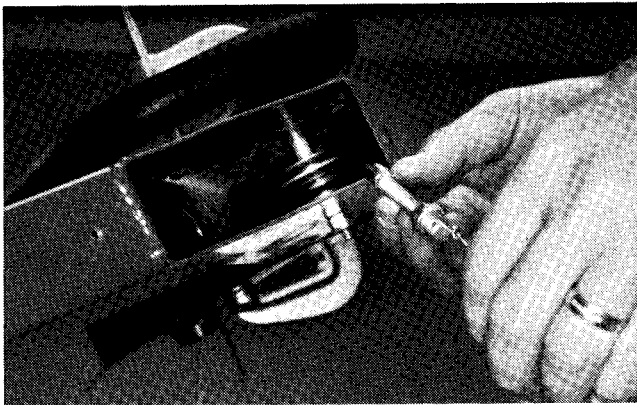

Figure 9
6. Pull cable through steering arm (Fig. 9). Hold cable and use a long flat blade screw driver to guide cable onto upper pulley inside steering arm.